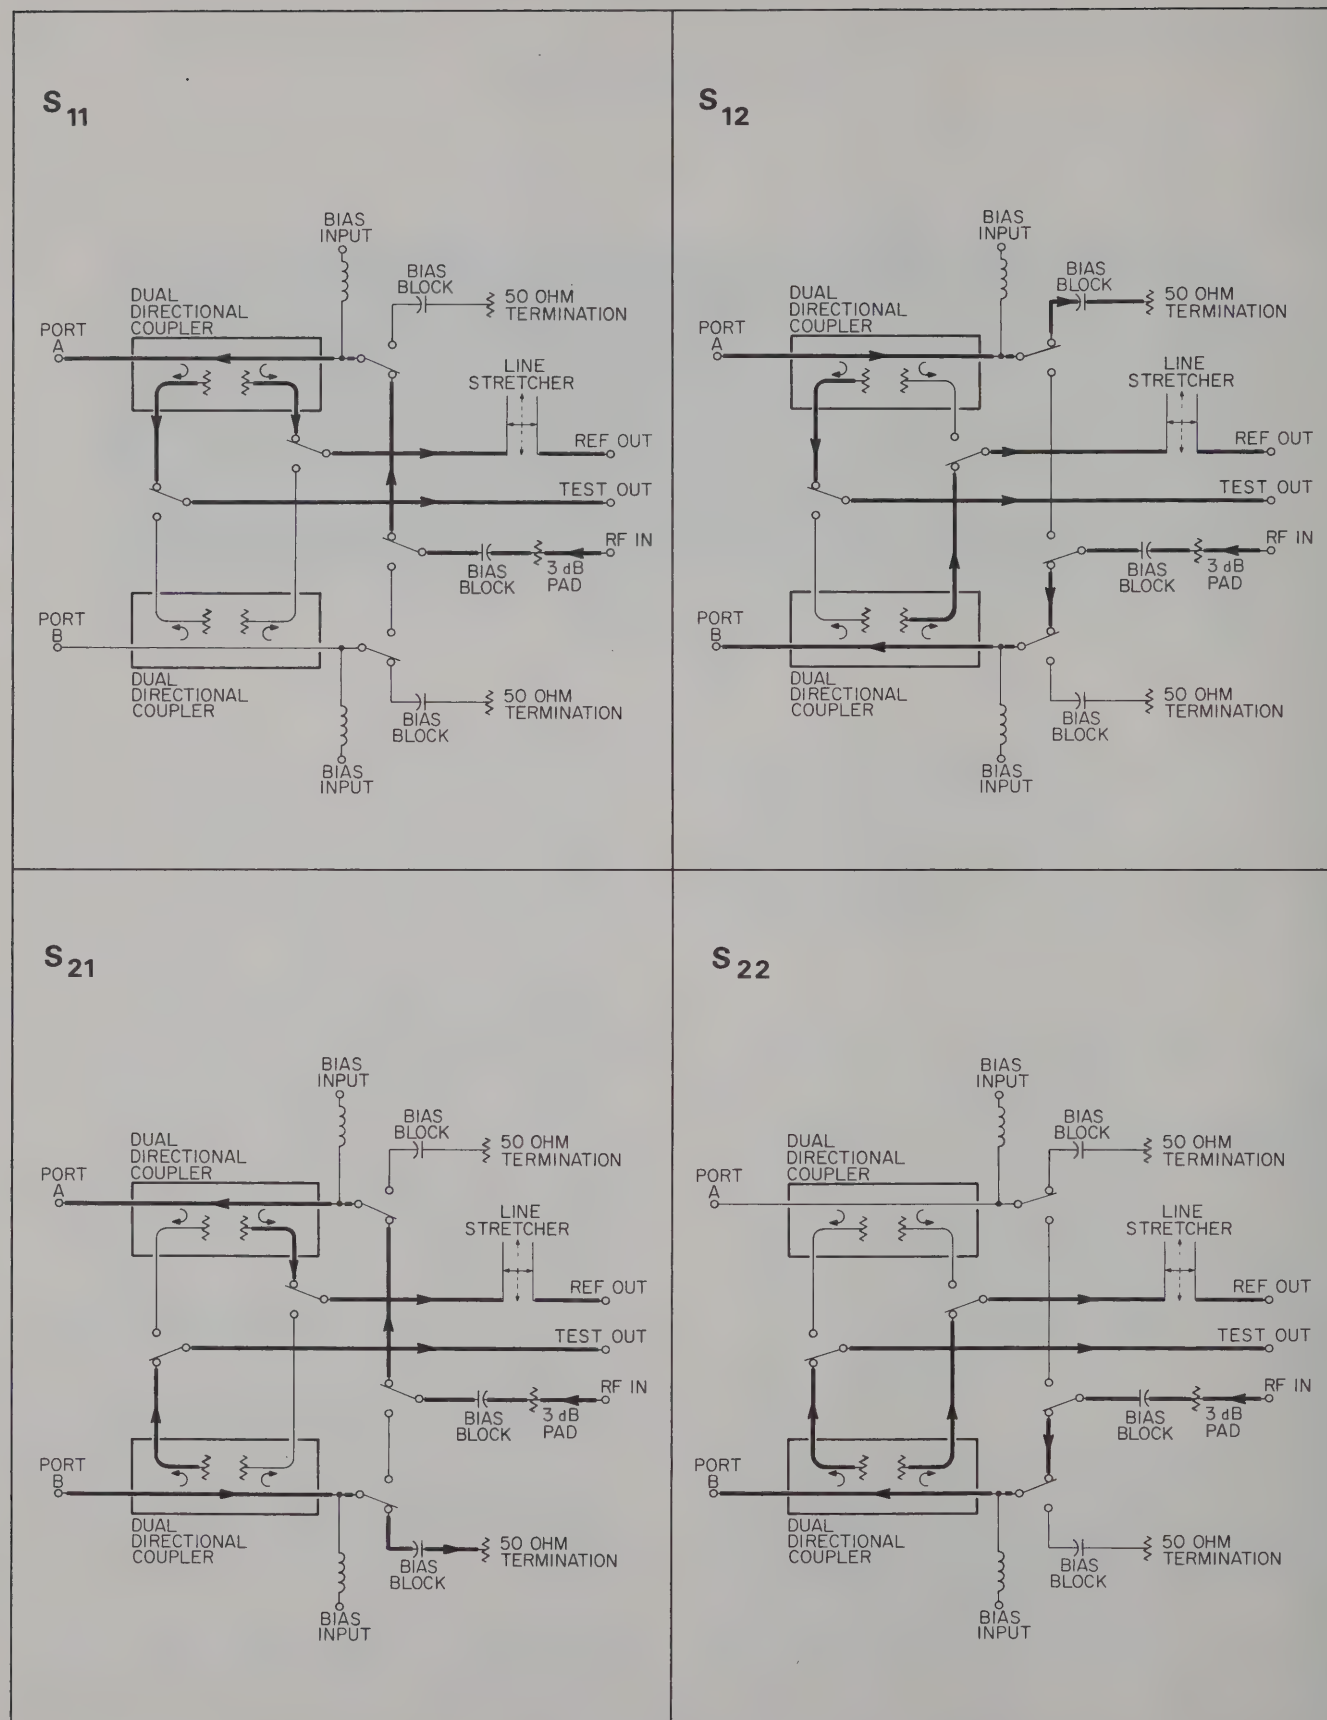

Figure 3-3. Signal Flow Diagrams, Input Port A Selected
d. Measure the parameters of the device under test. This is accomplished by selecting input port A, or B, then selecting the s parameter of interest. Figures 3-3 and 3-4 show the internal connections within the S-Parameter Test Set for the different switch combinations.